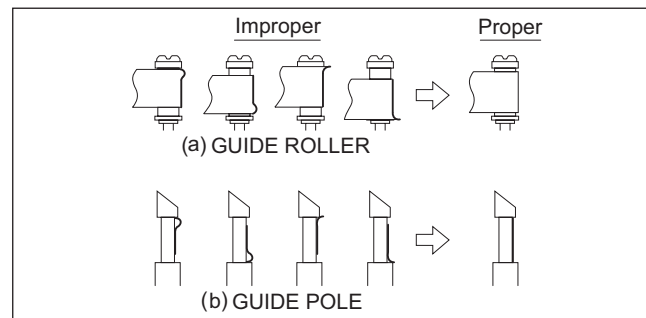
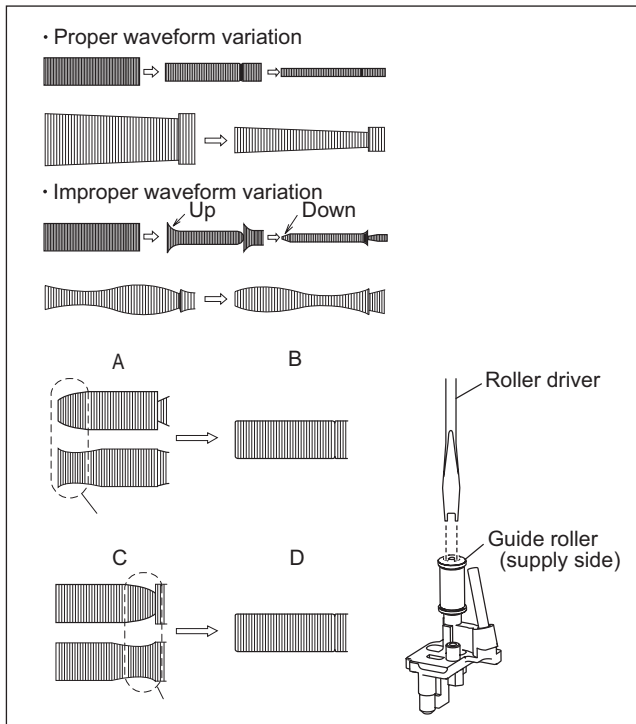

Fig.4-2b
Fig.4-2c
- To prevent damaging the alignment tape in the compatibility adjustment, prepare a cassette tape (for self-recording/playback), perform a test on it by transporting it and making sure that the tape is not bent by the tape transport mechanisms such as in the guide rollers. (See Fig.4-2b.)
- (1) Play back the alignment tape (A1).
- (2) Apply the external trigger signal to D, FF (E), to observe the V.PB FM waveform at the measuring point (D).
- (3) Set the VCR to the manual tracking mode.
- (4) Make sure that there is no significant level drop of the V.PB FM waveform caused by the tracking operation, with its generally parallel and linear variation ensured. Perform the following adjustments when required. (See Fig. 4-2c.)
- (5) Reduce the V.PB FM waveform by the tracking operation. If a drop in level is found on the left side, turn the guide roller of the pole base assembly (supply side) with the roller driver to make the V.PB FM waveform linear. If a drop in level is on the right side, likewise turn the guide roller of the pole base assembly (take-up side) with the roller driver to make it linear. (See Fig. 4-2c.)
- (6) Make sure that the V.PB FM waveform varies in parallel and linearly with the tracking operation again. When required, perform fine-adjustment of the guide roller of the pole base assembly (supply or take-up side).
- (7) Unload the cassette tape once, play back the alignment tape (A1) again and confirm the V.PB FM waveform.
- (8) After adjustment, confirm that the tape wrinkling does not occur at the roller upper or lower limits. (See Fig. 4-2b.) [Perform adjustment step (9) only for the models equipped with SP mode and EP (or LP) mode.]